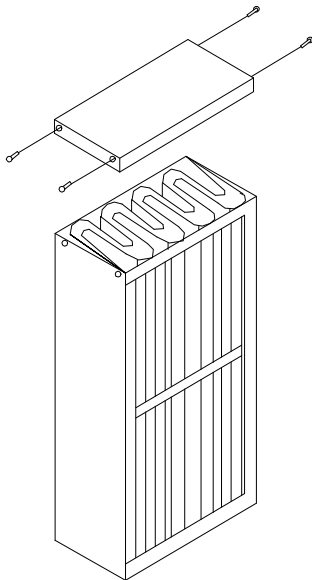

FIG. 1
3. If the unit contains one or two refillable charcoal modules (RCM), remove each module from the unit by loosening the wing bolts that retain the modules, and pulling the module out. Remove the top cover of RCM to allow access to fill RCM with charcoal provided. (See Fig. 1.) Replace the top cover and re-install the modules into the unit, and tighten wing bolts. (Retain any additional charcoal for future use.)
4. After approximately 6 months use, the refillable charcoal module(s) will need to be refilled with new charcoal (or activated alumina). To refill, remove top cover of RCM-6 (retained by four (4) screws), empty RCM-6 and refill. Shake the RCM-6 to allow for settling and refill to the top. Replace top cover back onto RCM-6. (See **Fig. 1**.)